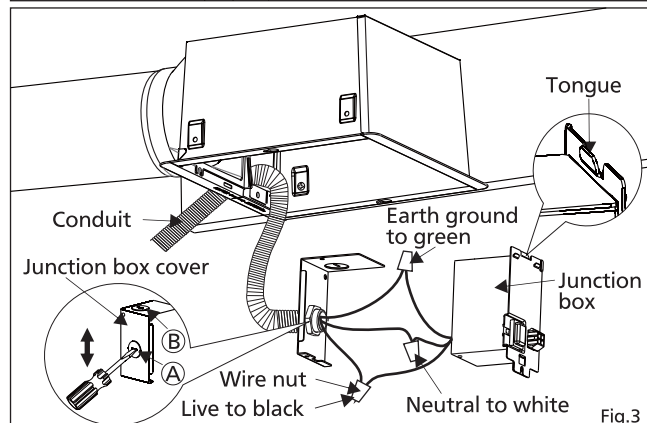
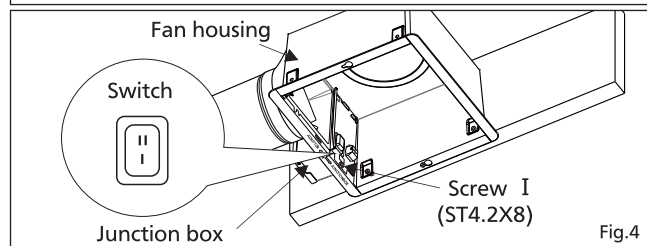

Fig.3
Fig.4
4. Remove junction box cover and secure conduit or strain relief to junction box cover knock-out hole (A or B). (Fig.3)
6. Affix the junction box cover to junction box. If the knock-out hole is used (B), this step must be performed after step 8.
8. Affix the junction box to the top of the fan housing with screw I (ST4.2X8). (Fig.4)
! Before affixing screw I (ST4.2X8), make sure the tongue of the junction box is clipped on fan housing correctly. (Fig.3)
9. Select the air volume speed by adjusting the switch. Factory setting is "I" (Standard) position; pressing "II" (Boost) selects the high airflow position. (Fig.4)
4. Remove junction box cover and secure conduit or strain relief to junction box cover knock-out hole (A) or (B). (Fig.3 of page 8)
8. Affix the junction box to the top of the fan housing with screw I (ST4.2X8). (Fig.4 of page 8)
- ! Before affixing screw I (ST4.2X8), make sure the tongue of the junction box is clipped on fan housing correctly. (Fig.3 of page 8)
9. Select the air volume speed by adjusting the switch. Factory setting is "I" (Standard) position; pressing "II" (Boost) selects the high airflow position. (Fig.4 of page 8)
3. Remove screw ST4.2X8 from junction box cover and secure conduit or strain to knock-out hole (A or B). (Fig. 3)
6. Select the air volume speed by adjusting the switch. Factory setting is "I" (Standard) position; presetting "II" (Boost) selects the high airflow position. (Fig. 4)
3. Remove screws ST4.2X8 from Junction box cover and secure conduit or strain to knock-out hole (A or B). (Fig. 3 of page 5)
Factory setting is "I" (Standard) position; presetting "II" (Boost) selects the high airflow position. (Fig. 3 of page 5)